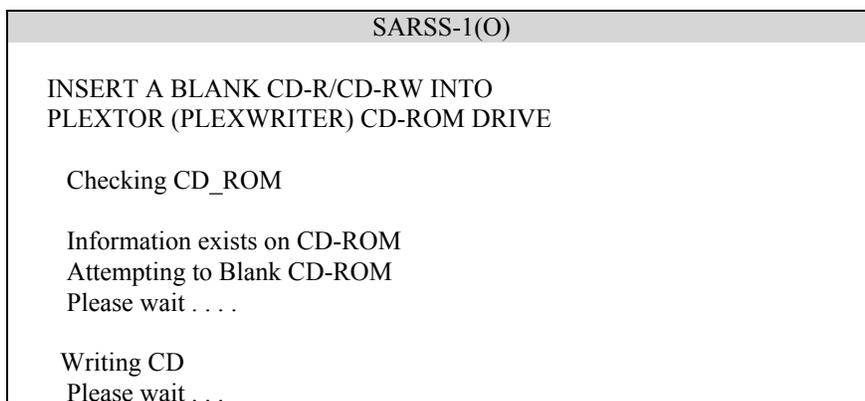

Figure 4-15 Exception Message
4.3.2 Backup Errors and Messages. During creation of the Backup CD, several messages indicating exceptions or errors may be displayed. When an error condition occurs, you will be given the option to retry the operation or to “ABORT” the operation. An example of a message indicating an exception is shown in (Figure 4-15). In the example given, the system has detected that a CD-RW was used which already contained data. The system was able to erase the data and reuse the CD-RW CD-ROM successfully.